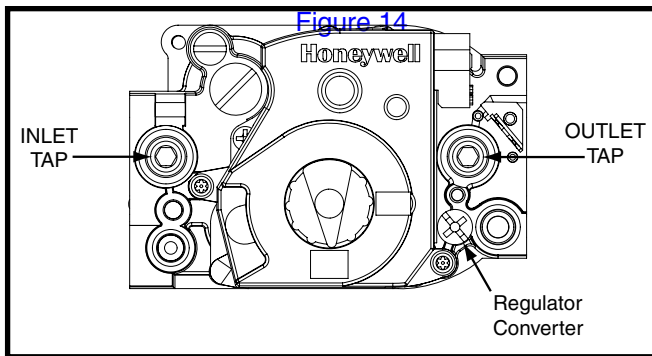

Figure 14. Direct Ignition Gas Valve
2. Using a 3/16" Allen wrench, remove the appropriate tap plug located on the gas valve. See Figure 14 \(page 18\). **NOTE:** To measure the inlet gas pressure, remove the tap plug on the inlet side of the gas valve. To measure the manifold pressure, remove the tap plug on the outlet side of the gas valve.